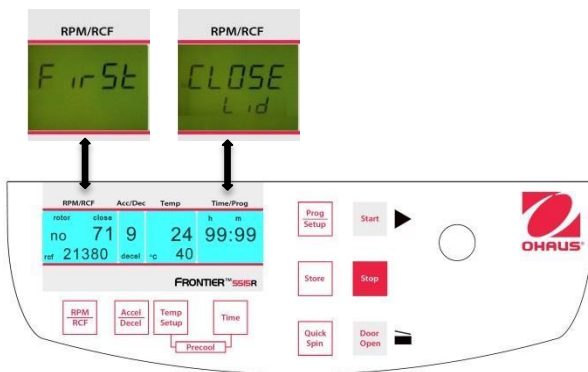
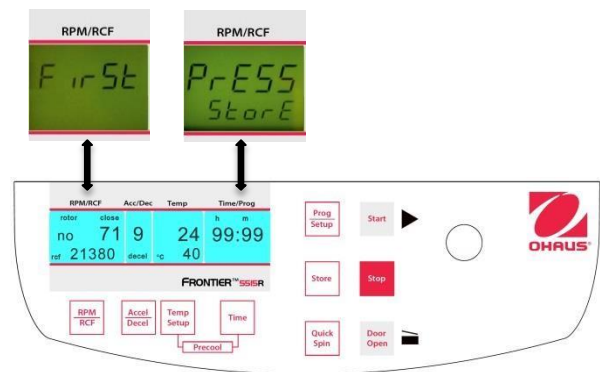

Figure. 23
Figure. 24
Lose the lid of the centrifuge. Now proceed as described previously to set all important run parameters. If the lid isn't closed when storing the program, in the display "RPM/RCF" (A-1), the words "FirSt" and "CLOSE Lid" (See figure 23) flashes alternately. If you want to start the run without storing the program, in the display "RPM/RCF" (A-1), the words "First" and "PrESS StoreE" (See figure 24) flashes alternately.
For adaption of data press the key "Store" (12) (refer to figures 23 and 24) for approx. 1 second. If the program is stored correctly, the word "StorE" appears in the display "RPM/RCF" (A-1). As a result, the word "programm" (M10) disappears.